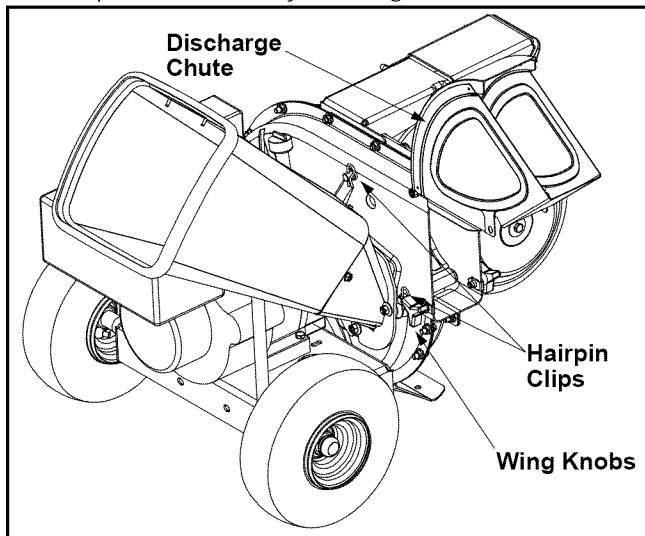

Figure 8
- Remove the two wing knobs on each side of the discharge chute and lift the discharge chute up to keep it out of the way. See Figure 8.
- Remove the two hairpin clips from each clevis pin which extend through the housing and remove the pins. See Figure 8.